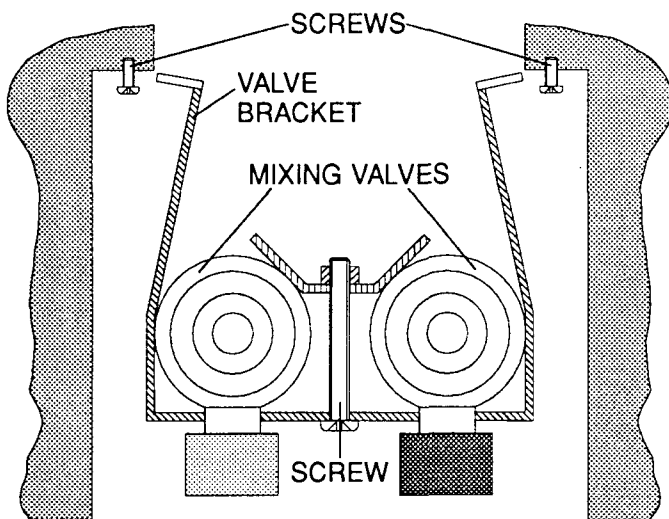

figure 25
3. Loosen the SCREW in the middle of the VALVE BRACKET far enough, so that the BRACKET can be bent as shown in figure 25.